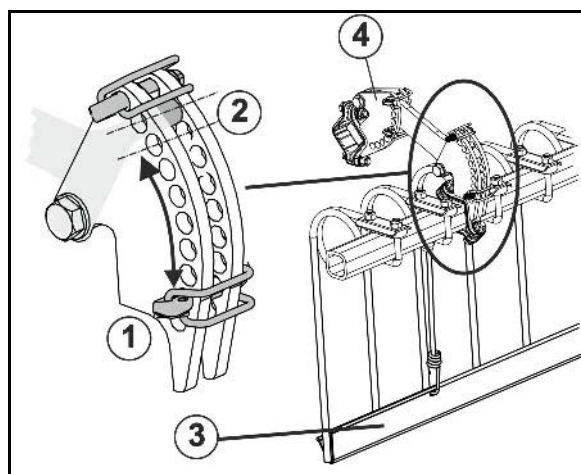

Fig. 47
- Install the transport safety bar (Fig. 47/3).
- Lock the tines in position 2 with the positioning pins (Fig. 47/1).